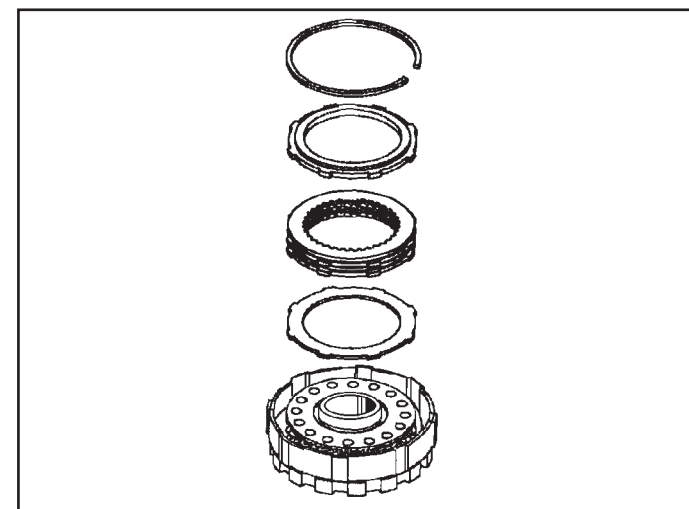

Figure 117
2. Install the apply plate into the clutch housing with the fiber side facing up. Install all clutch plates starting with an internally splined plate first, alternate plates with the fiber side facing up (See Figure 117). There is a total of three internally splined and two externally splined fiber plates in this pack.
3. Install the clutch backing plate and selective retaining snap ring (See Figure 117).